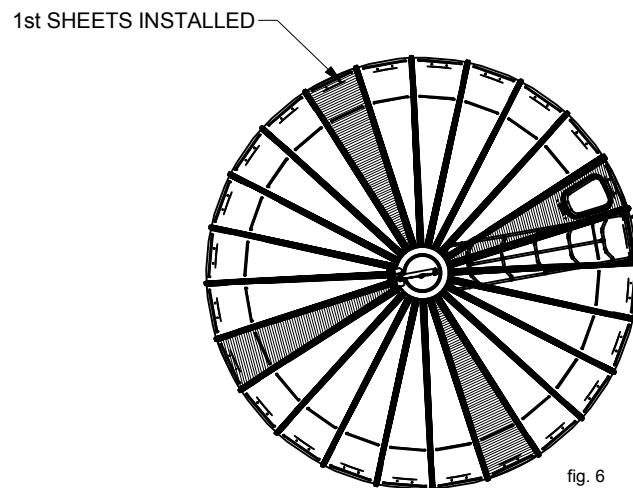

fig. 6
- For best results in erecting the roof, first secure the roof flange on center support, then divide roof area in four equal sections and install one roof sheet in each section (shown in Fig. 6) using 1" (25mm) bolts, flat washers, plastic inserts, foam closures and hex nuts to fasten sheets to roof rim; 1" (25mm) bolts are also used for roof flange assembly.